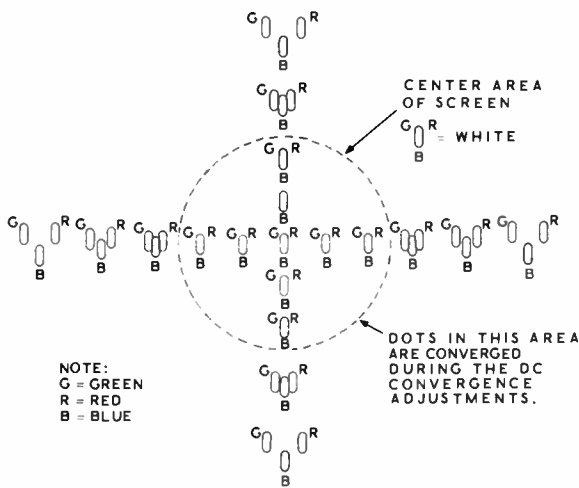
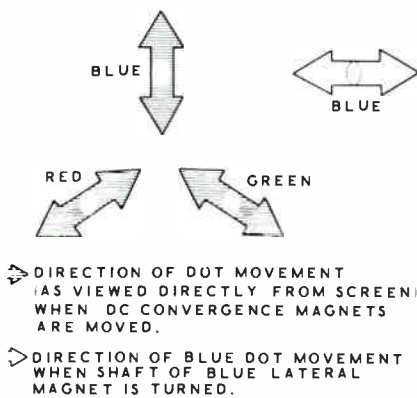

Figure 1-10A
Figure 1-10B
NOTE: The DC convergence adjustments only converge the dots in the center area of the picture tube. See Figure 1-10A. Do not try to converge the dots in other areas at this time. Refer to Figure 1-10B to see which way each dot will move on the screen when you adjust the DC convergence magnets.
- (✓) Merge the green and red dots at the center of the picture tube to make yellow dots. See Figure 1-11 (fold-out from Page 81). Do this by turning the adjustment knobs of the red and green DC convergence magnets until you find the correct positions. It may be easier to merge the two colors if you move each dot back and forth first, as far as it will go, to see where it will travel to. See Figure 1-10B which shows the movement of each dot.